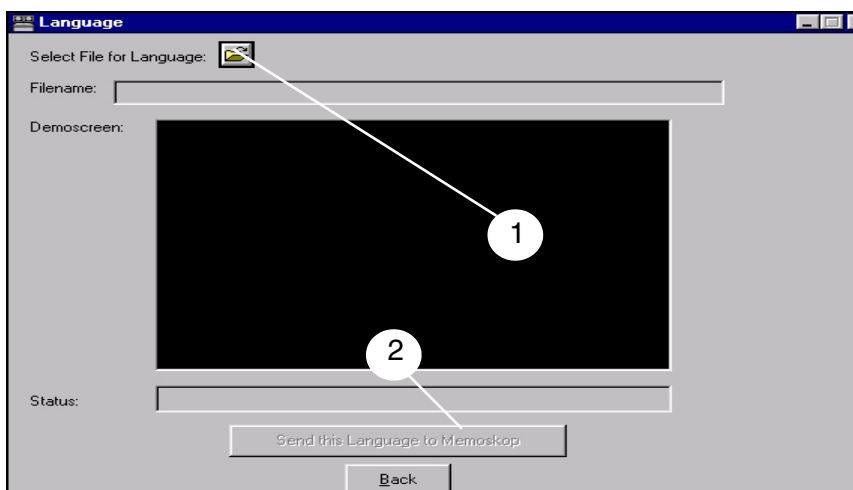

Fig. 10
- The "Transferring Language" window is displayed (Fig. 10).
- Click on the Select file: "Language File" button (1/Fig. 10).
- Select the "Send this Language to Memoskop" button (2/Fig. 10).